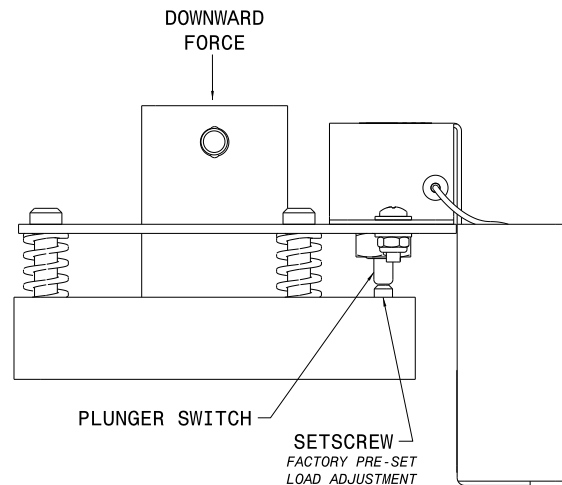

Figure 2
2. Depress the plunger switch to check electronic circuit. The alarm will sound when the switch is engaged. (see Figure 2)
3. Test alarm by slowly applying an evenly distributed force of 100 to 150 lbs across the top of the load alarm. The top plate of the load alarm kit will lower and engage the plunger switch. A loud pulsating alarm will then sound. If alarm does not sound, refer to the Troubleshooting section. (see Figure 2)